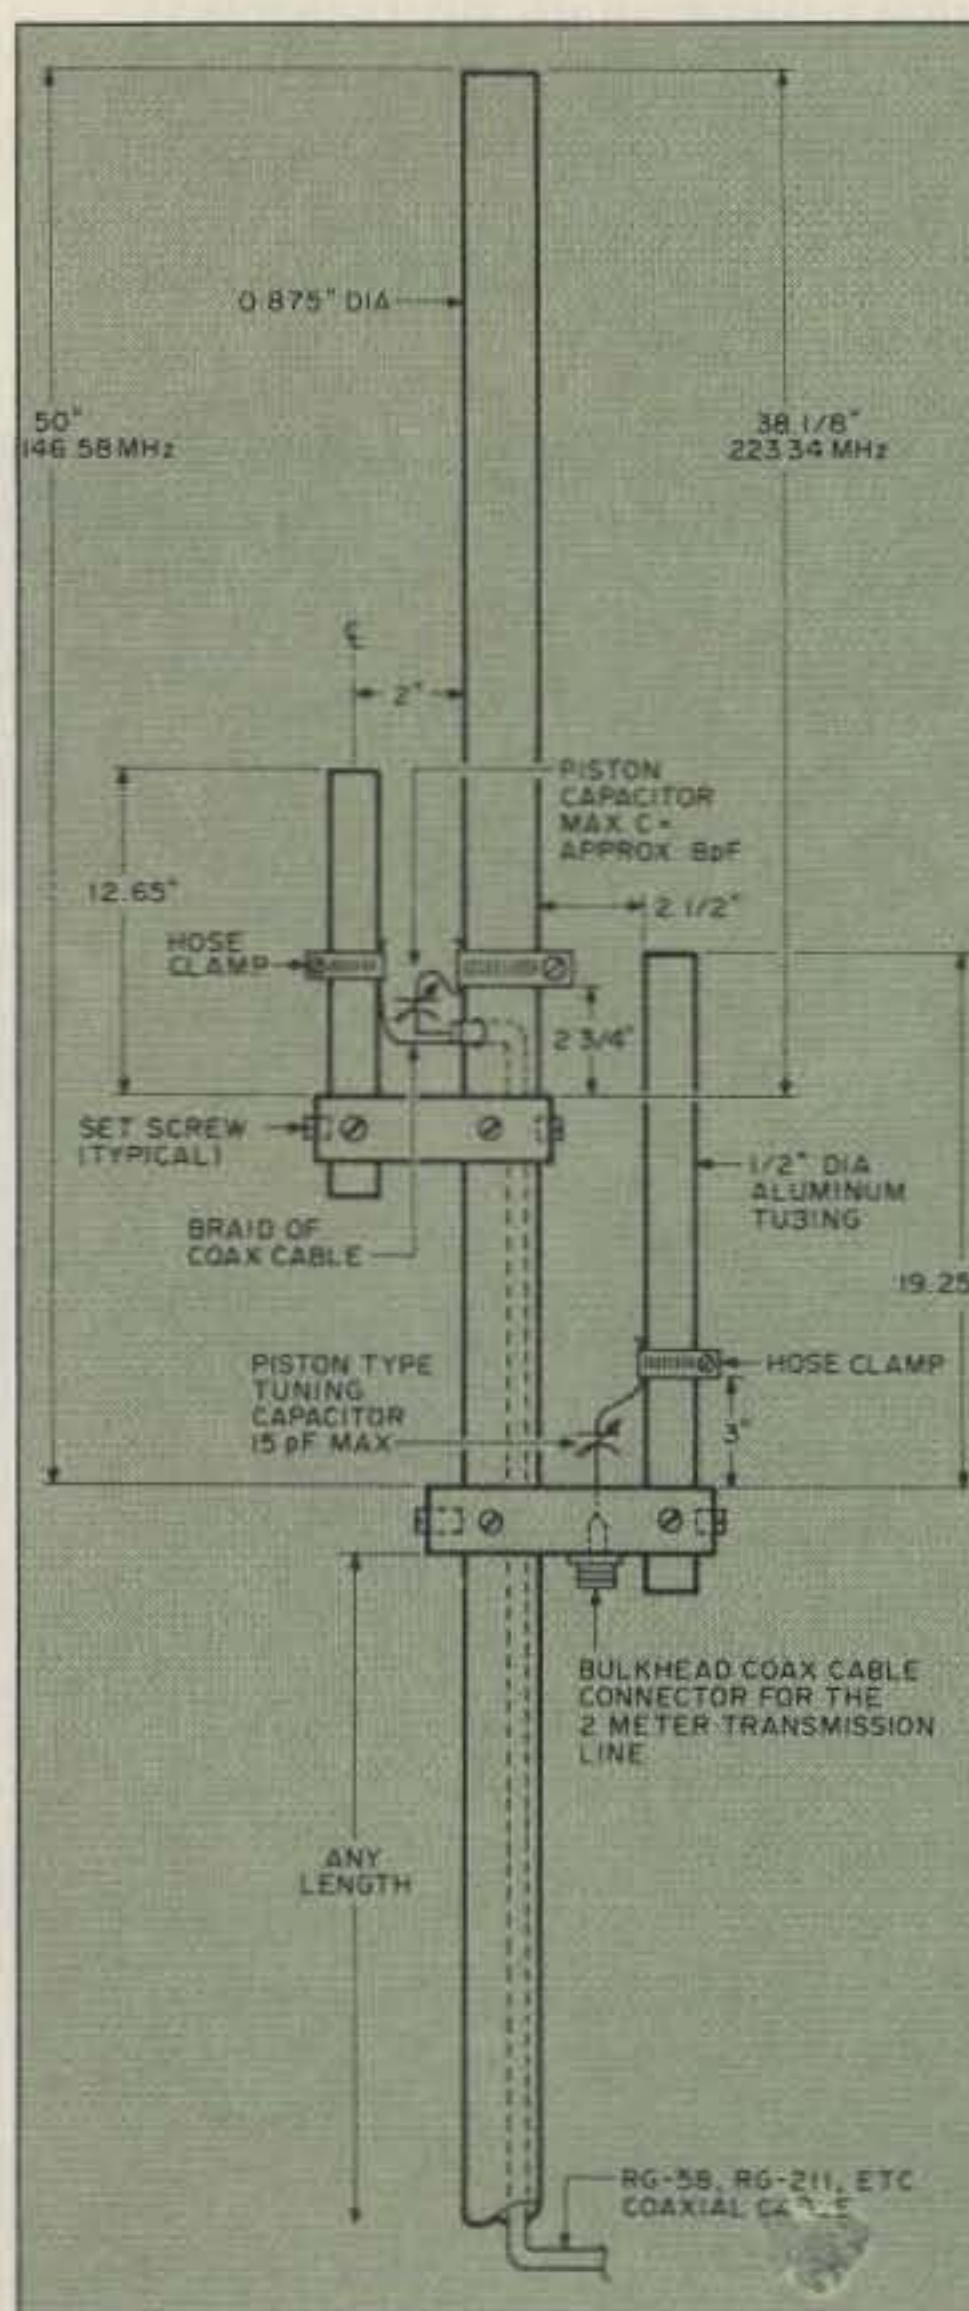

Figure 1. The dual-band "J" antenna.
See Figure 1. The radiating sections of the antenna are 3/4 wavelength long. The large diameter tubing causes a significant (K) constant factor as related to the wavelength-to-